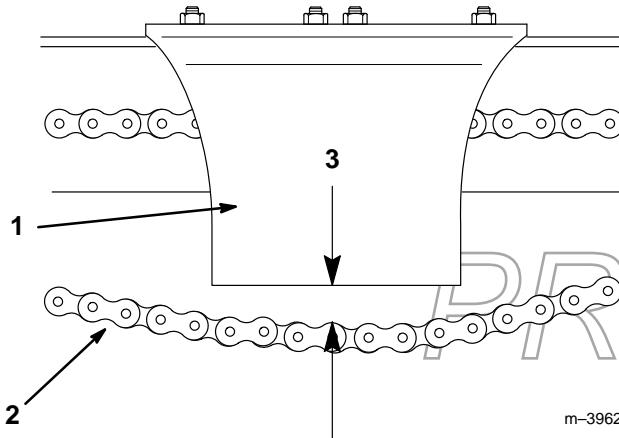

Figure 18
4. Measure the distance between the bottom of the chain guard and the lower chain span (Fig. 18). If the slack in the chain is not within 1-1/2 to 2-1/2 inches, adjust the tension (refer to Adjusting the Tension).
3. Remove the chain guard (Fig. 18).